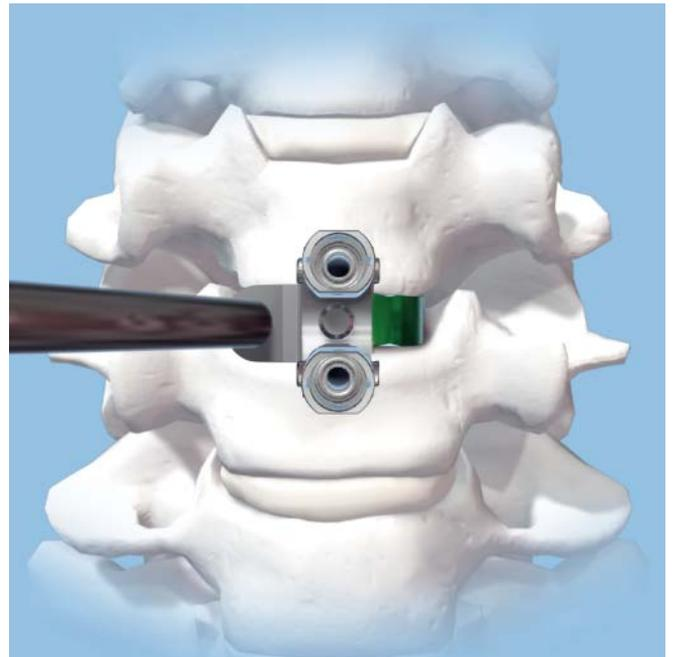

Figure 23
- Slide the appropriate milling guide over the shaft of the trial and tighten the locking nut. Under AP fluoroscopy, confirm that the guide and trial are centered on the midline and oriented in the AP sagittal plane (Figure 23).